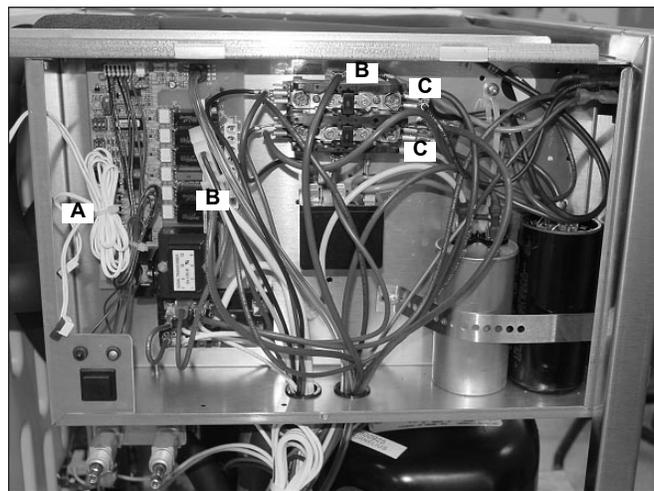

FIGURE 16
- (FIGURE 16) Curtain Switches (A) – 2 white low voltage plug harnesses (control board)
- (FIGURE 16) High Pressure Cutout (B) – 2 blue wires (Contactor and #5 pin on control board).
- (FIGURE 16) Crankcase heater (C) – 2 blue wires (line side of contactor)